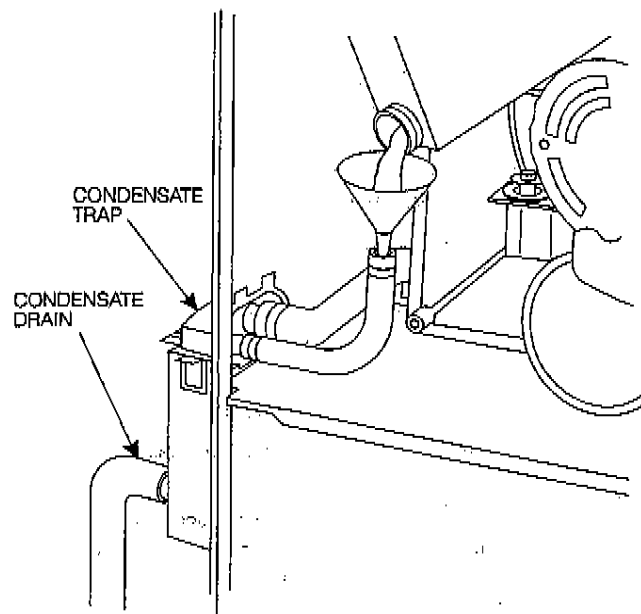

Fig. 42—Filling Condensate Trap
b. Insert funnel into tube and pour 1 quart of water into tube. This should overflow the trap and flow into an open drain. (See Fig. 42.)
- (1) Remove burner enclosure front and caps that conceal adjustment screws for gas valve regulators. (See Fig. 42.)